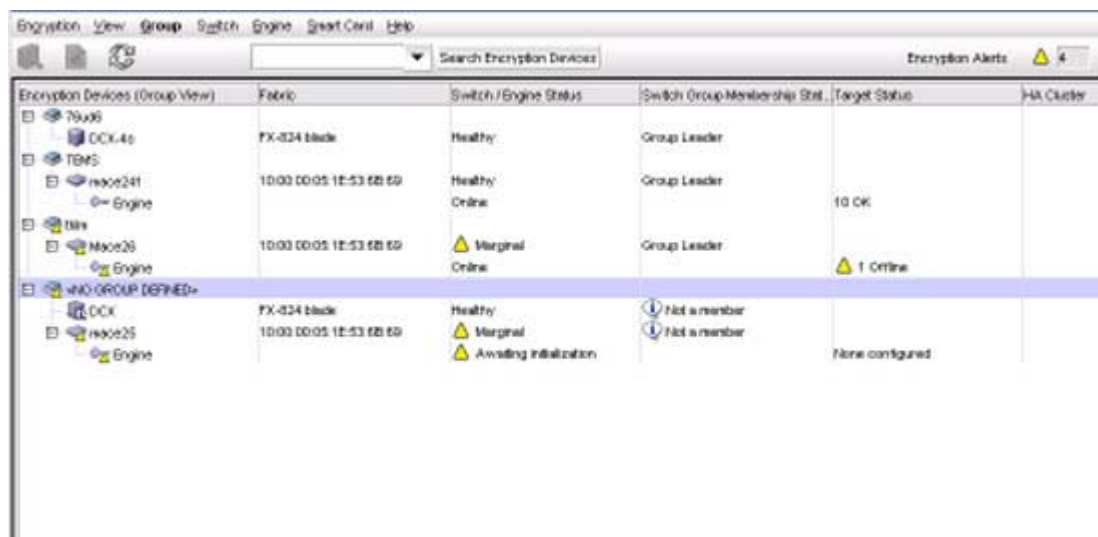

FIGURE 242 Encryption Center dialog box - No group defined
1. Select **Configure > Encryption** from the menu task bar to display the **Encryption Center** dialog box. (Refer to Figure 242.)